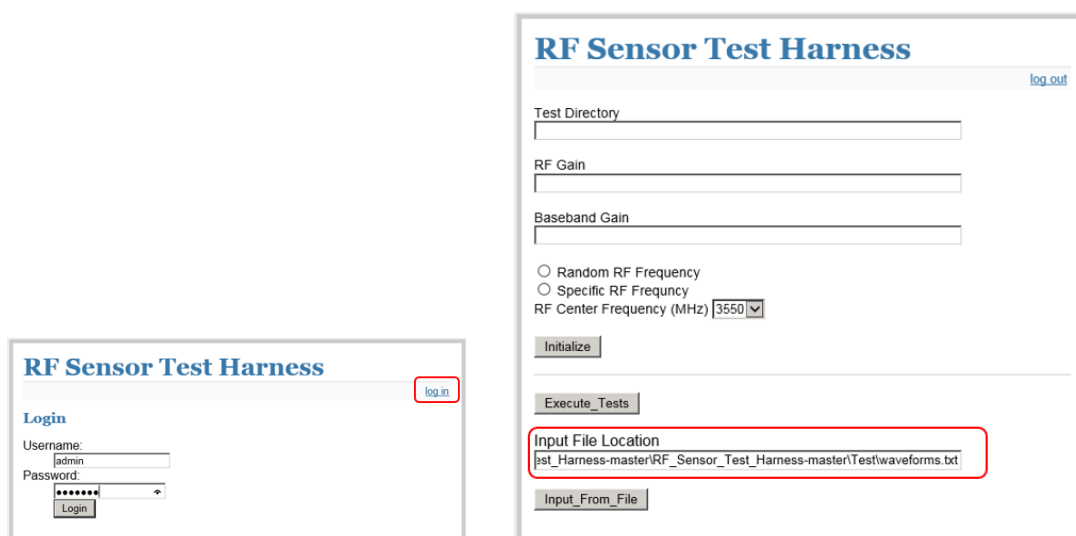

Figure 4: RF Sensor Test Harness user interface
- The RF Sensor Test Harness user interface (web browser) is already launched and will appear as shown in Figure 4.
- Enter the full path of the “waveform.txt” file into the “Input File Location” field of the user interface and press “Input_From_File” to play the waveforms as shown in Figure 4.